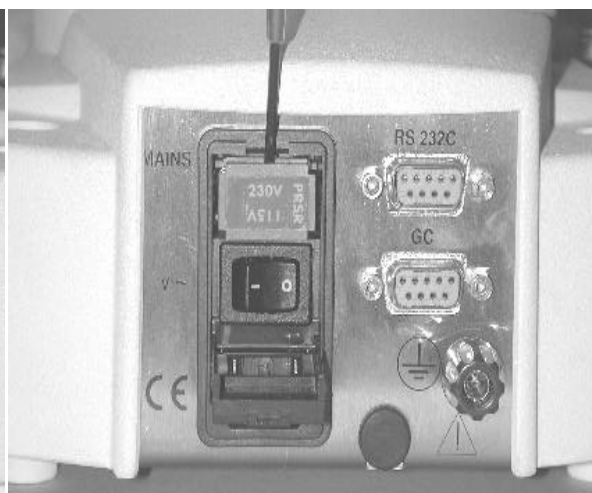

Figure 8B
2. With the same screwdriver, extract the fuse compartment as shown in figure 8B.